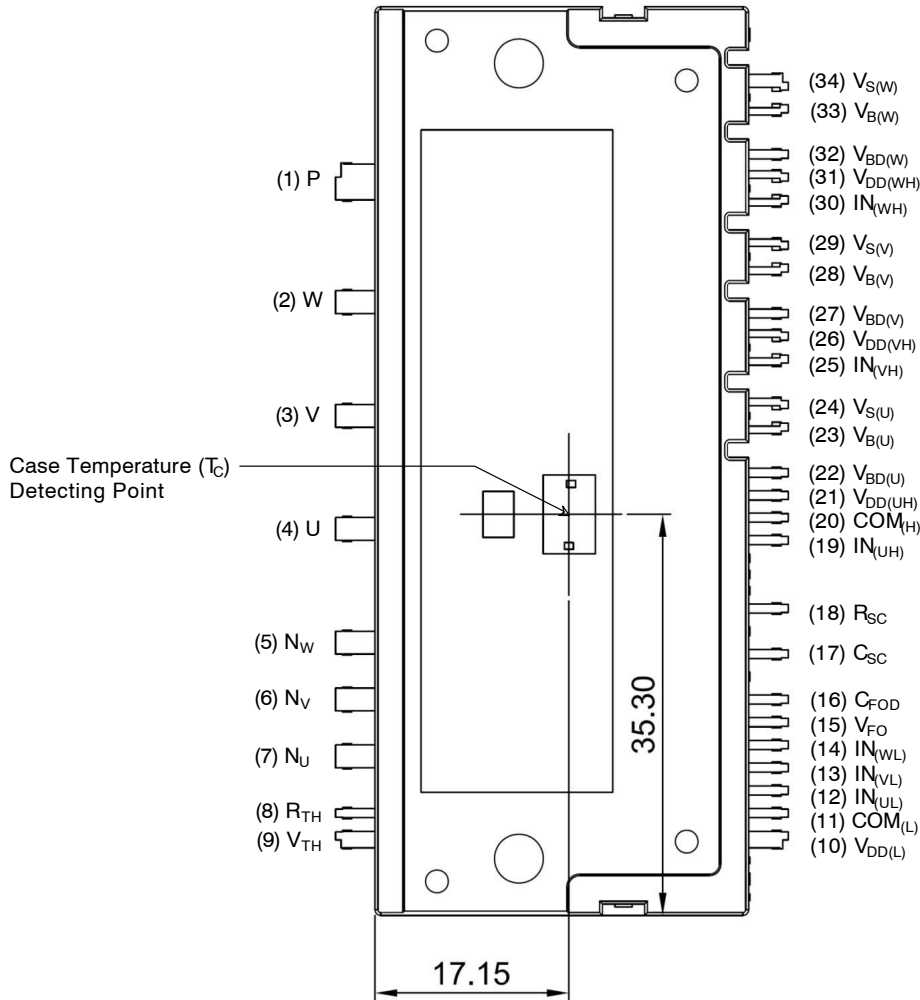

Figure 1. Top View
- 1200 V–35 A IGBT inverter for three–phase DC/AC power conversion (Refer to Figure 1)
5. For the measurement point of case temperature (TC), please refer to Figure 1. DBC discoloration and Picker Circle Printing allowed, please refer to application note AN-9190 (Impact of DBC Oxidation on SPM® Module Performance).